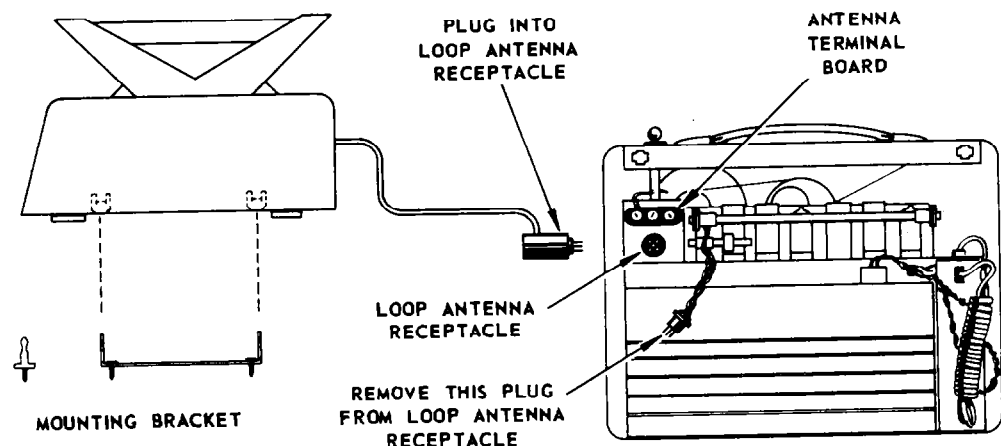

Figure 2. Installation Instructions
2.2 Connections — The electrical connections required to connect the RDF66 to the NC66 are shown in figure 2. Remove the rear dust cover from the NC66 and remove the small plug from the receptacle on the antenna terminal board. This disconnects the NC66 ferrite loop antenna. Plug the cable from the RDF66 into the receptacle from which the NC66 ferrite loop antenna plug was removed. The rear dust cover may now be replaced on the NC66 using the upper left-hand clearance hole for the RDF66 cable.